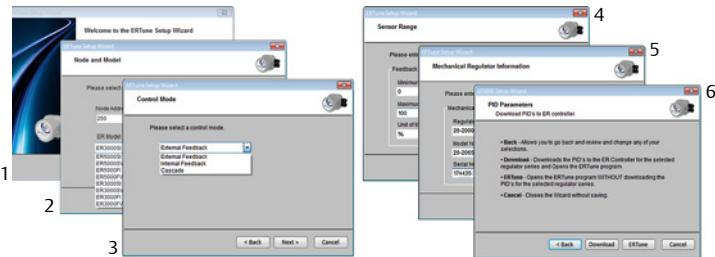

Figure 14: Setup Sequence for ERTune™ Software
5. The ER5000 Setup Wizard screens are shown in Figure 14. Use the information from Step 1 to complete setup. For most screens, the default values will be correct for your application.